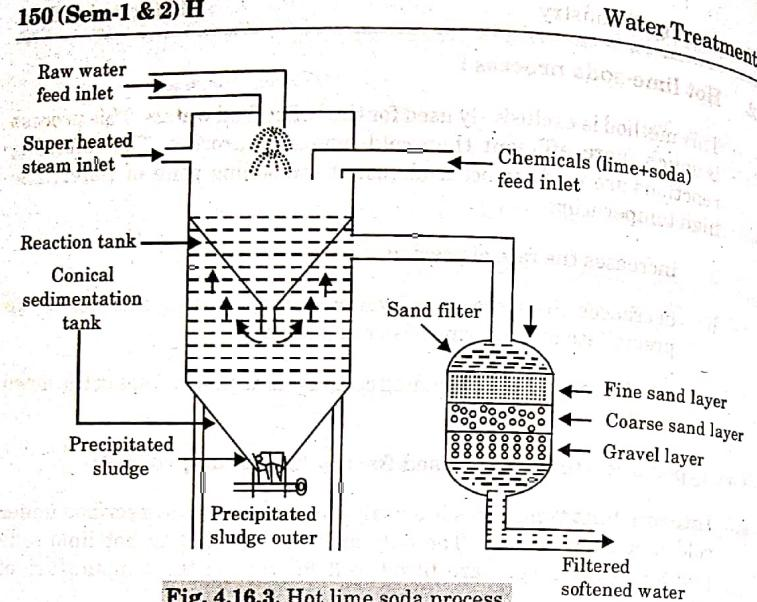

Fig. 4.16.3. Hot lime soda process.
- Nowadays settling tank is combined with reaction tank as shown in Fig. 4.16.3.